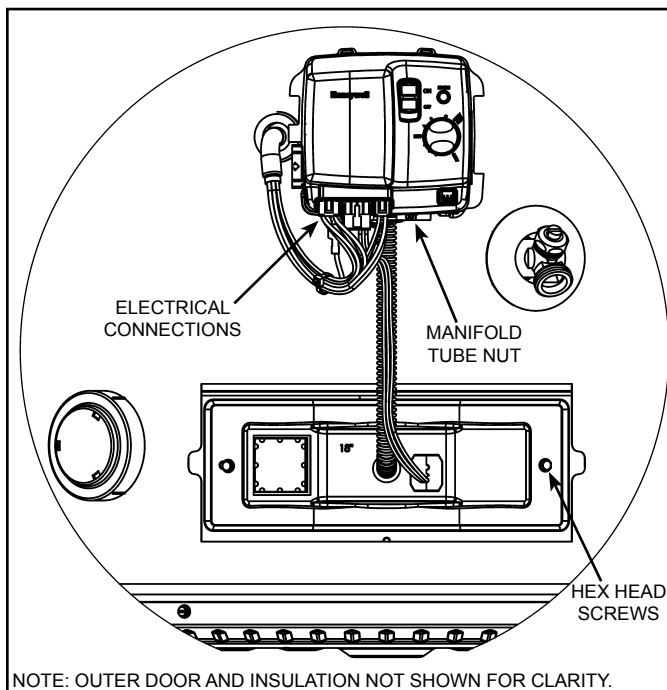

Figure 15
5. Unplug all the electrical connections from the bottom of the gas control valve/thermostat (see Figure 15).
6. Using a 3/4" open end wrench remove the manifold tube from the gas control valve/thermostat (turning counter-clockwise for natural gas, clockwise for L.P.). Grasp the manifold tube and push down slightly to free the manifold tube from the gas control valve/thermostat (see Figure 15).
8. Use a 1/4" nutdriver or 1/4" socket & ratchet to loosen the 2 hex head screws on the inner door so the inner door/manifold/burner assembly can be removed (see Figure 15).
2. After confirming no materials of any type are between door gasket and combustion chamber shield, align the screws on the inner door with the screw holes on the combustion chamber and tighten with 1/4" nutdriver or 1/4" socket & ratchet (see Figure 15). After tightening the inner door screws, visually inspect area around door gasket and skirt for spaces or gaps. The door gasket MUST be sealed completely in order for the water heater to perform properly. **DO NOT OPERATE THE WATER HEATER IF THE DOOR GASKET DOES NOT CREATE A SEAL BETWEEN MANIFOLD DOOR AND COMBUSTION CHAMBER.**
3. Reconnect the manifold tube to the gas control valve/thermostat (**Note:** Do Not apply any thread sealant at this connection). To prevent any cross threading the manifold tube should be started by hand (turn clockwise for natural gas, counter-clockwise for L.P.). Upon tightening with the fingers and confirming it has not been cross threaded, tighten nut with a 3/4" open end wrench (see Figure 15).
2. After confirming no materials of any type are between door gasket and combustion chamber shield, align the screws on the inner door with the screw holes on the combustion chamber and tighten with 1/4" nutdriver or 1/4" socket & ratchet (see Figure 15). After tightening the inner door screws, visually inspect area around door gasket and skirt for spaces or gaps. The door gasket MUST be sealed completely in order for the water heater to perform properly.
3. Reconnect the manifold tube to the gas control valve/thermostat (**Note:** Do Not apply any thread sealant at this connection). To prevent any cross threading the manifold tube should be started by hand (turn clockwise for natural gas, counter-clockwise for L.P.). Upon tightening with the fingers and confirming it has not been cross threaded, tighten nut with an 3/4" open end wrench (see Figure 15).